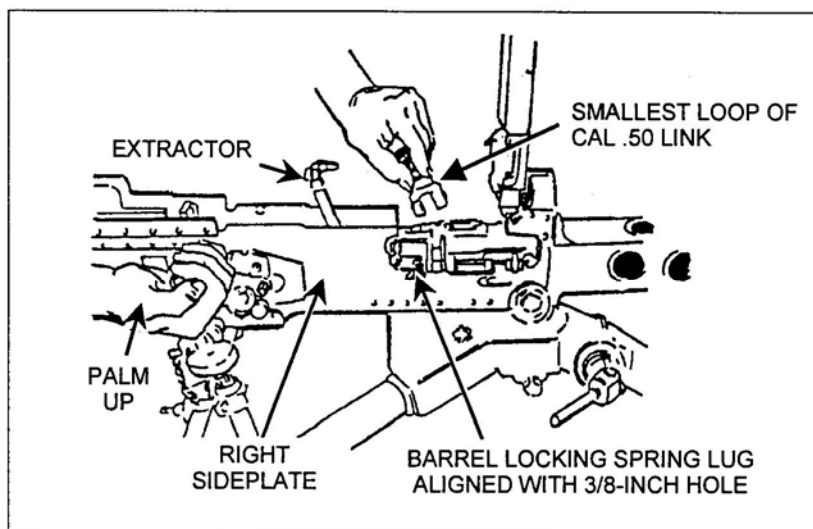

Figure 2. Alignment of the lug.
- (2) Grasp the retracting slide handle with the right hand, palm up. Pull the bolt to the rear until the barrel locking spring lug aligns with the 3/8-inch hole in the right side plate of the receiver (Figure 2).
- (3) Place the smallest loop of a caliber .50 link between the trunnion block and the barrel extension (Figure 2). This keeps the barrel locking spring lug aligned with the 3/8-inch hole.
- (4) Unscrew the barrel from the receiver. Be careful not to damage the threads or barrel locking notches.
- (5) Remove the caliber .50 link to allow the bolt to go forward slowly. Make sure the bolt group does not slam forward with the barrel removed.